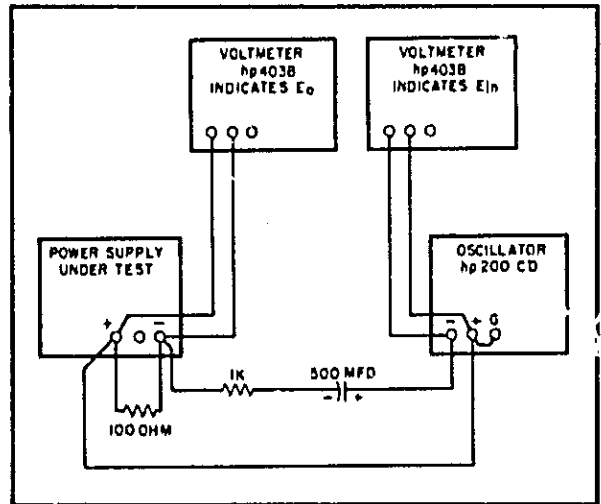

Figure 5-6. Output Impedance, Test Setup
- Connect test setup shown in Figure 5-6.